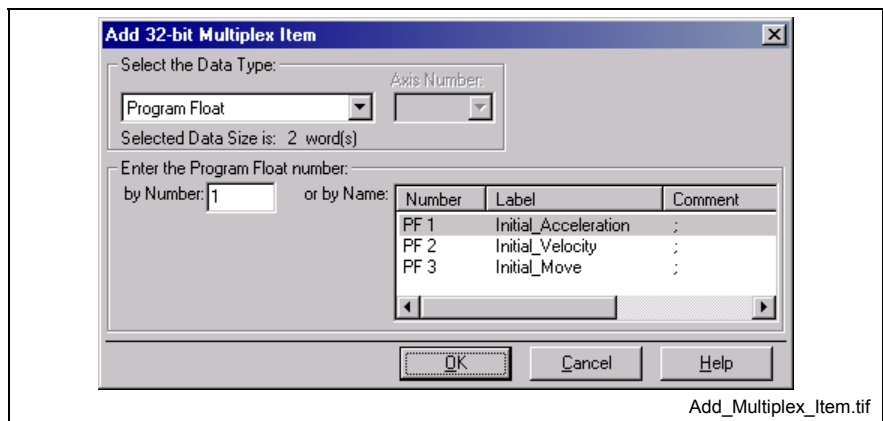

Fig. 7-169: Adding a Multiplex Item to the Container (32-bit example)
3. To add to the selected multiplex container, click **No**. The window in Fig. 7-169 below is an example for adding a 32-bit multiplex item.